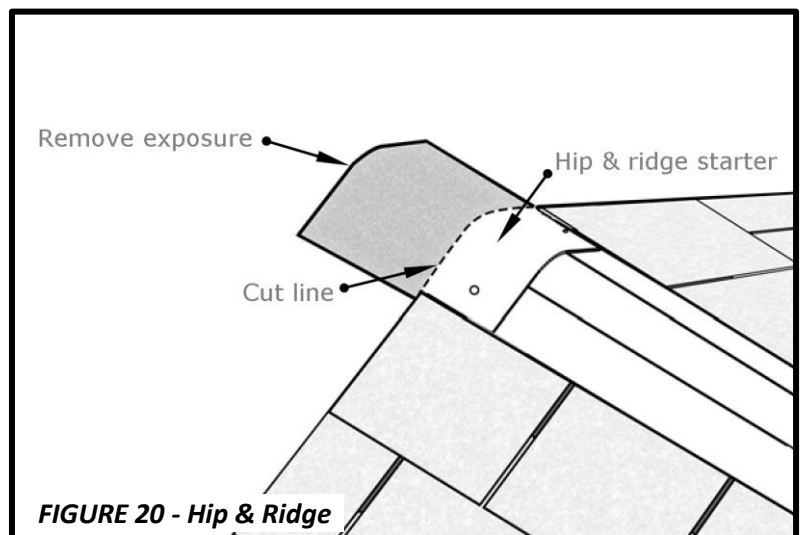

FIGURE 20 - Hip & Ridge
- Make a starter shingle by removing the exposure portion. See **Figure 20**. Install Hip and Ridge with a **7 3/4" (197mm) exposure**. At the ridge, start the hip and ridge shingles from the opposite direction of the prevailing winds. See **Figure 21**. Begin hips at the bottom of the hip. For further installation details about FWAVE Hip and Ridge, visit fwaverroofing.com.